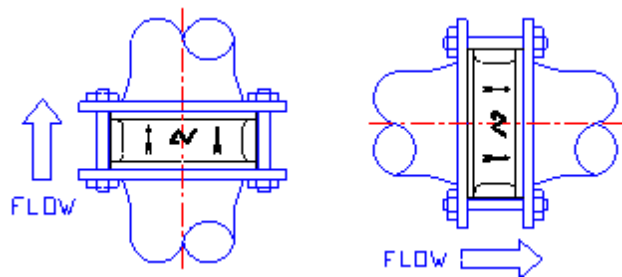

Fig. 1.
- a. Installation regarding to the flow direction, please see the cast direction of check valve body. (see Fig. 1)